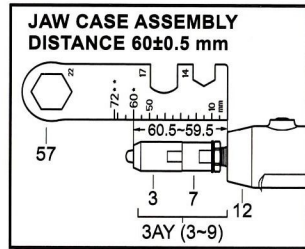
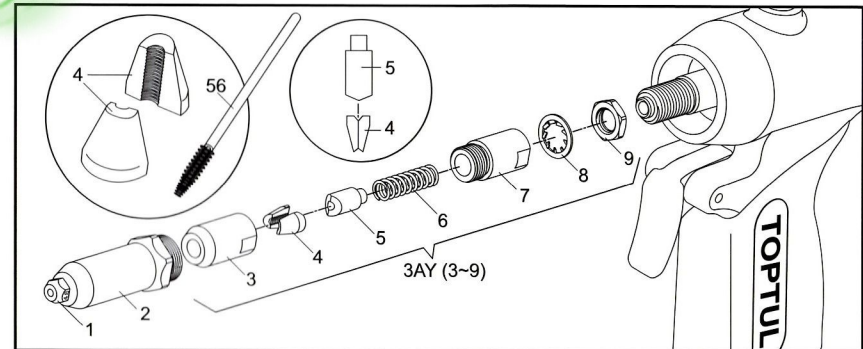

Fig.2
Fig.5
- Check the JAW CASE ASSEMBLY DISTANCE that meets the specification 60 ± 0.5 mm. (Fig.2)
- Carefully check and firmly tighten the all assembly, for example the Jaw Case Assembly (3AY), Working Nosepiece (1), Head (2), Oil Screw Plug (14), Oil Cylinder End Cap (22), Noise Silencer Lock Nut (28), Valve End Cap (46), Air Cylinder End Cap (53), Air Inlet End Cap (55) and air inlet fitting before daily operation etc.
- Check to ensure the Trigger (30) operation is normal.
- Unscrew the Head (2) by the Wrench 27 (58), dismantle the Jaw Case Assembly (3AY) by the Wrench 22 (57) and Wrench 27 (58).
- Check all inner parts, any worn or damaged parts and twisted Jaw Pusher Spring (6) should be replaced. Pay attention to check the teeth of Jaws (4), and replace new Jaws (4) if the teeth are worn out. Also pay attention to the Jaw Pusher (5) and Jaw Pusher Spring (6), replace them if they are seriously worn out or become shorter or twisted.
- Use the Brush (56) to clean the Front Jaw Case (3), teeth of Jaws (4), Jaw Pusher (5), Jaw Pusher Spring (6) and Rear Jaw Case (7). Dip these parts into oil for lubrication. For better lubrication, lightly apply the moly-lithium grease on the back side of Jaws (4) and on the inner slope of Front Jaw Case (3). (Fig.5)
- Use the Wrench 22 (57) to check and adjust the Lock Nut (9) to the recommended jaw case assembly distance 60 ± 0.5 mm (Fig.2), at the same time tighten the Rear Jaw Case (7) and the Lock Nut (9) firmly by the Wrench 22 (57) and Wrench 27 (58). Finally, use the Wrench 27 (58) to reassemble the Head (2) firmly.
- Connect the tool to the compressed air supply system. It is suggested to depress the Trigger (30) twice to adjust the inner parts of Jaw Case Assembly (3AY) moving to the normal position, so that the blind rivet mandrel can be inserted into the Working Nosepiece (1) smoothly.
12. Use the Wrench 22 (57) and Wrench 27 (58) to reassemble the Lock Nut (9), Lock Washer (8) and Rear Jaw Case (7) together (Fig.5), then use the Wrench 22 (57) and Wrench 27 (58) to adjust and lock the jaw case assembly distance to 60 ± 0.5 mm (Fig.2), finally fasten the Head (2) to the tool. Ensure that the Oil Cylinder End Cap (22) is fastened firmly, the Spent Mandrel Container (24) is fitted well, the Jaw Case Assembly (3AY) and Head (2) are all fastened firmly.